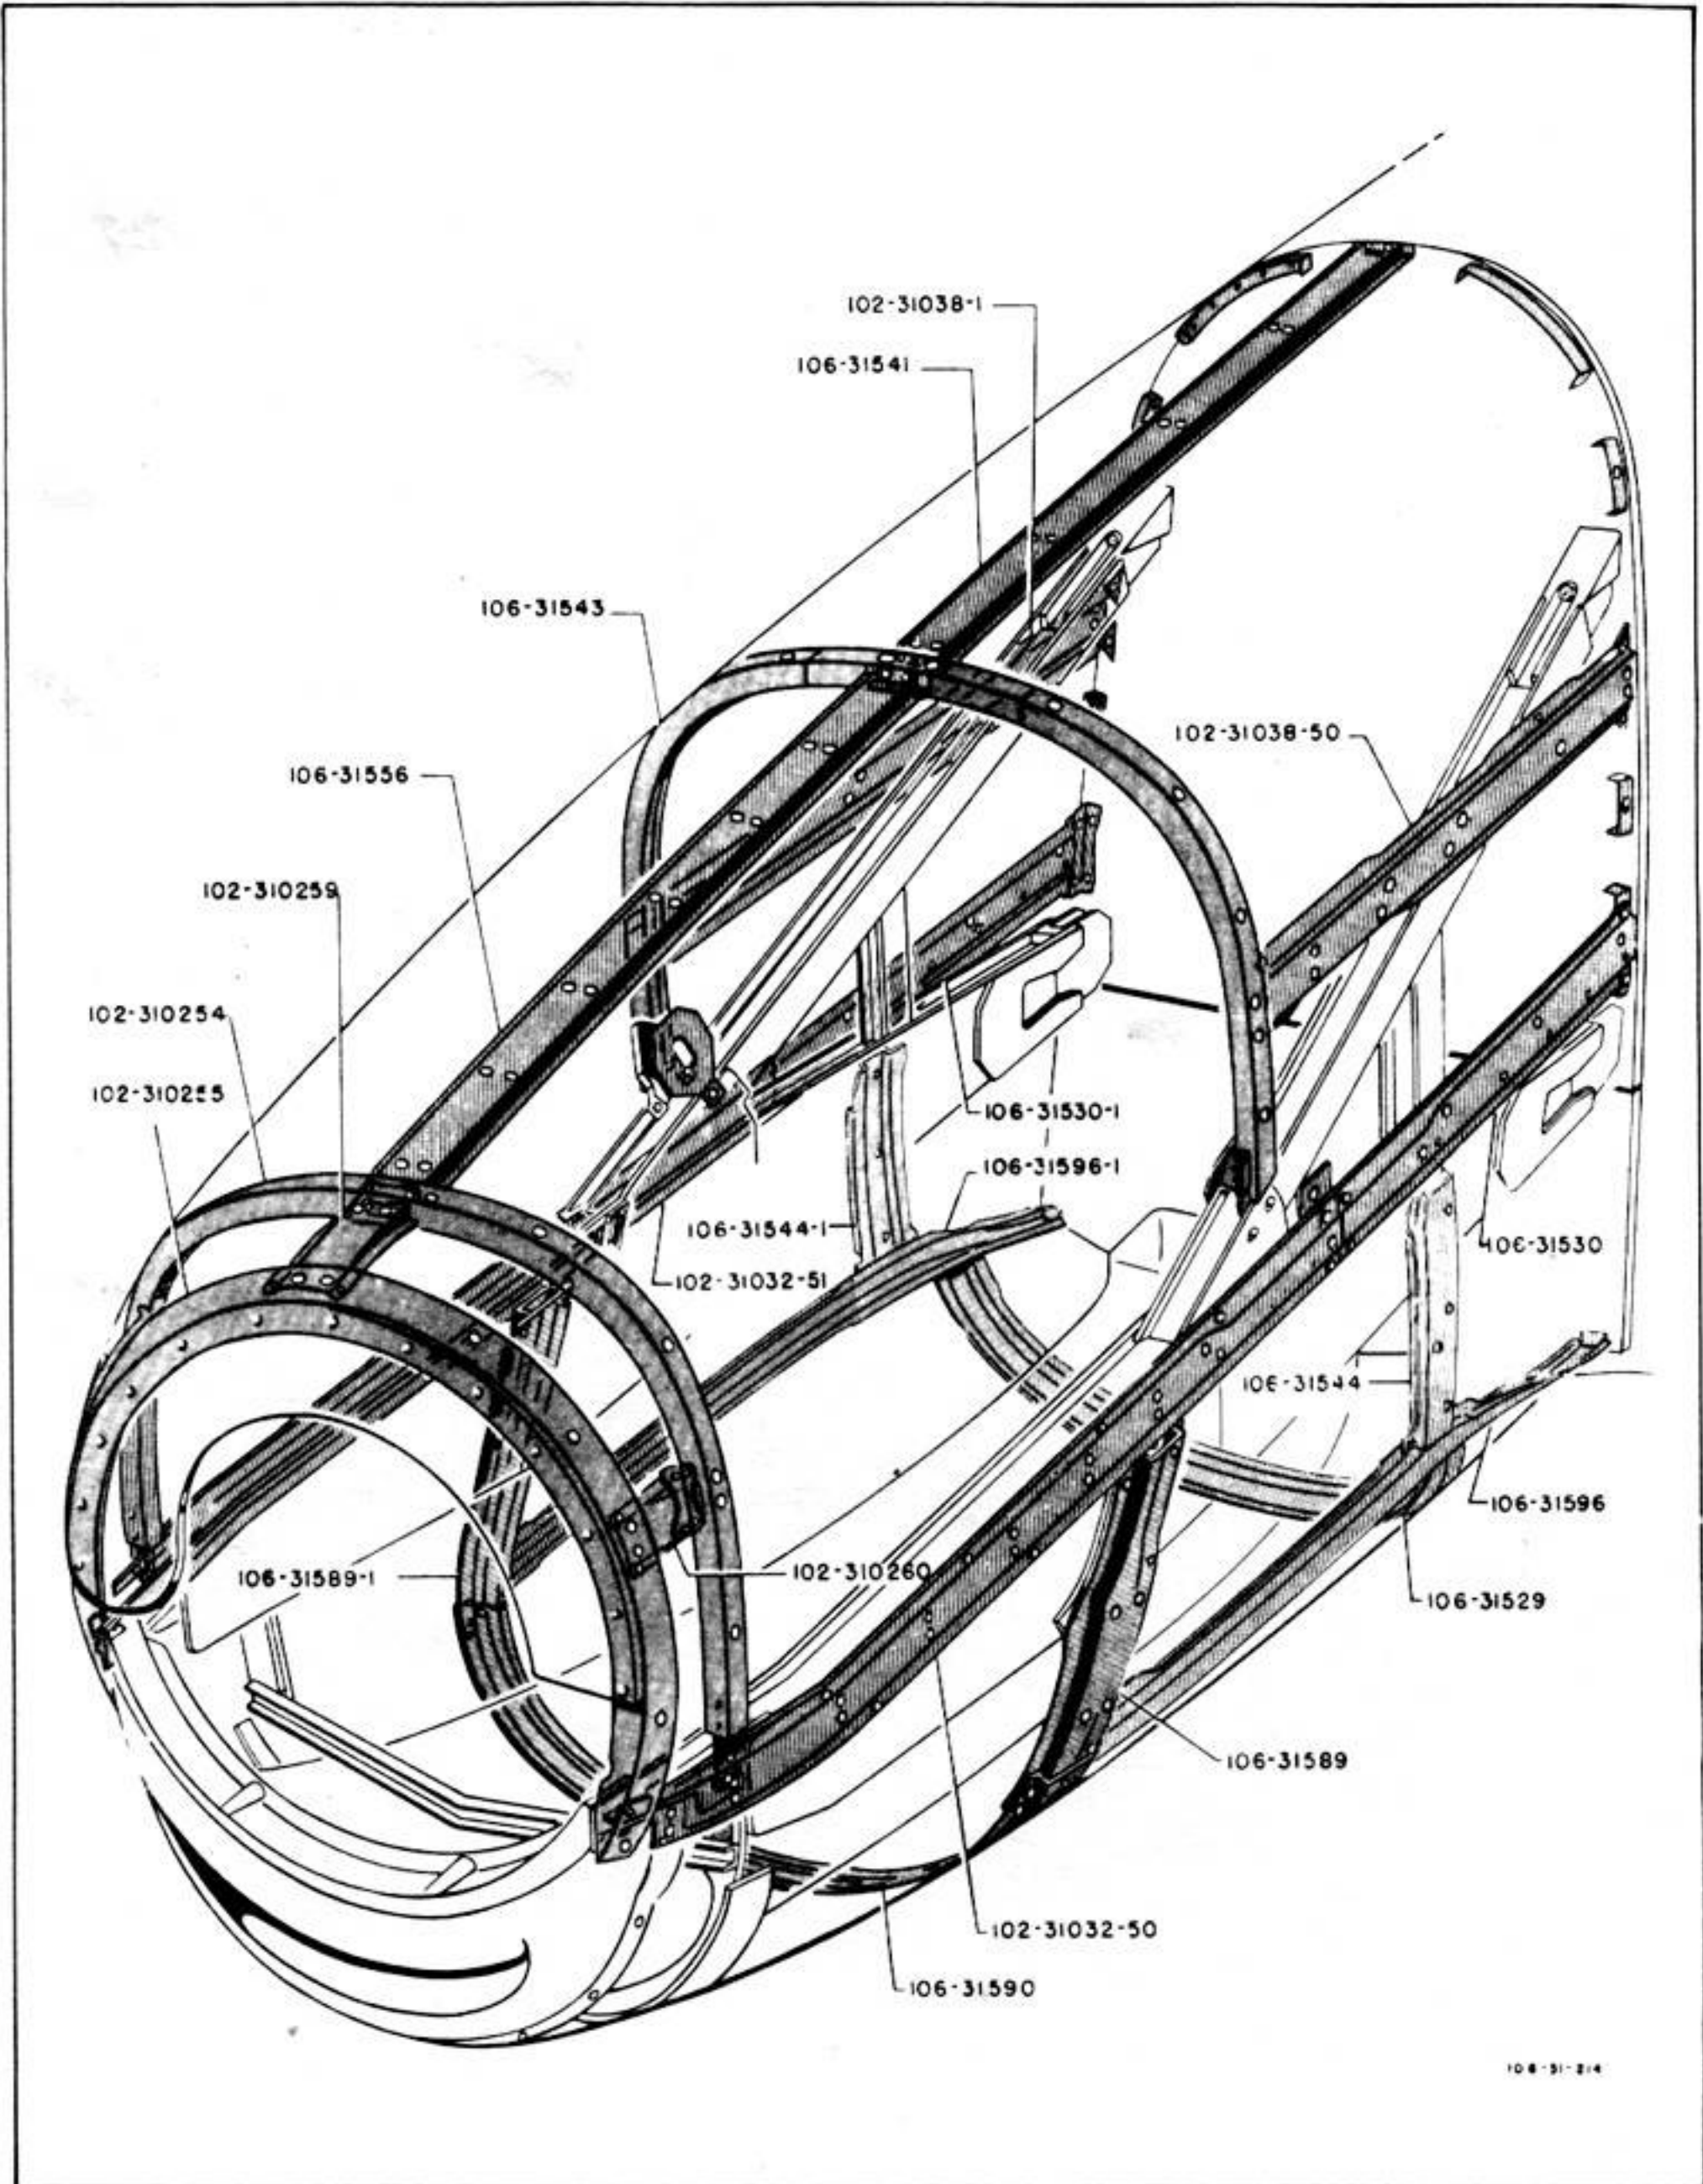

Figure 166—Engine Cowling Supports
(1) DESCRIPTION.—The engine mount consists of two Y-shaped, aluminum alloy box-beam structures and struts which are held together by two cross frames. The forward frame incorporates the leading edge and front duct section of the carburetor air scoop. The aft frame is canted and attaches to the beams. Four engine mount shock support housings containing Lord bushings are included in the engine mount assembly. Two housings are bolted to each cross frame as shown in figure 166. If the rubber bushings in the Lord mounts show signs of deterioration, they must be replaced. Evidence of excess oil or fuel on the rubber should warrant very close inspection of these bushings. The engine mount is bolted to the firewall at four places; the upper points of attachment are the forward extremities of